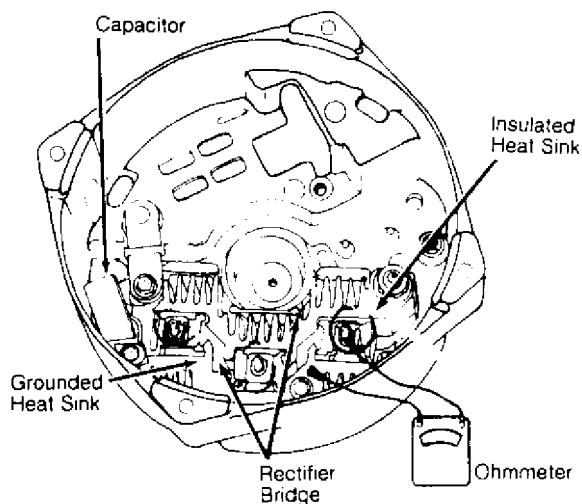

Fig. 5: Testing Generator Rectifier Bridge (CS144)
1) Scribe end frames to facilitate reassembly. Remove through-bolts and separate end frames. Remove stator. Connect ohmmeter between grounded heat sink and any of 3 grounded flat metal rectifier bridge terminal connectors and note reading. See Fig. 5.